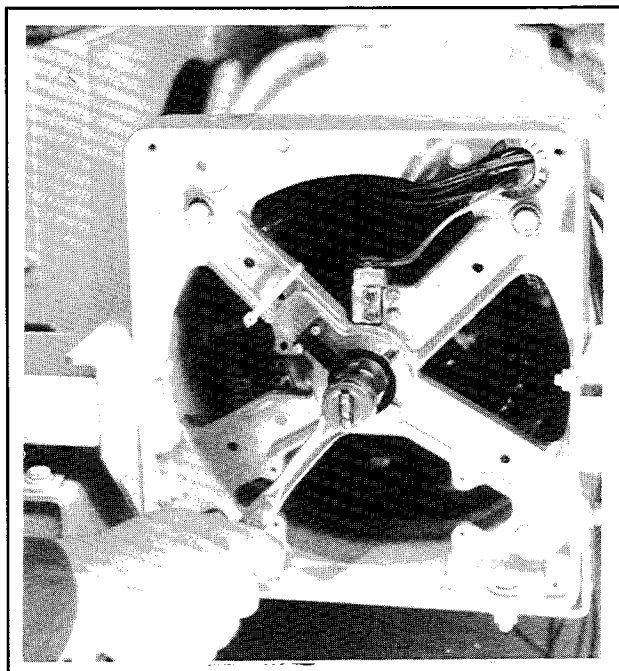

Figure 8-21. Installing Rotor Actuator
10. Reinstall rotor actuator (if removed earlier) using one screw and flat washer. Torque screw to 96 in. lbs. (11 Nm). See Figure 8-21.